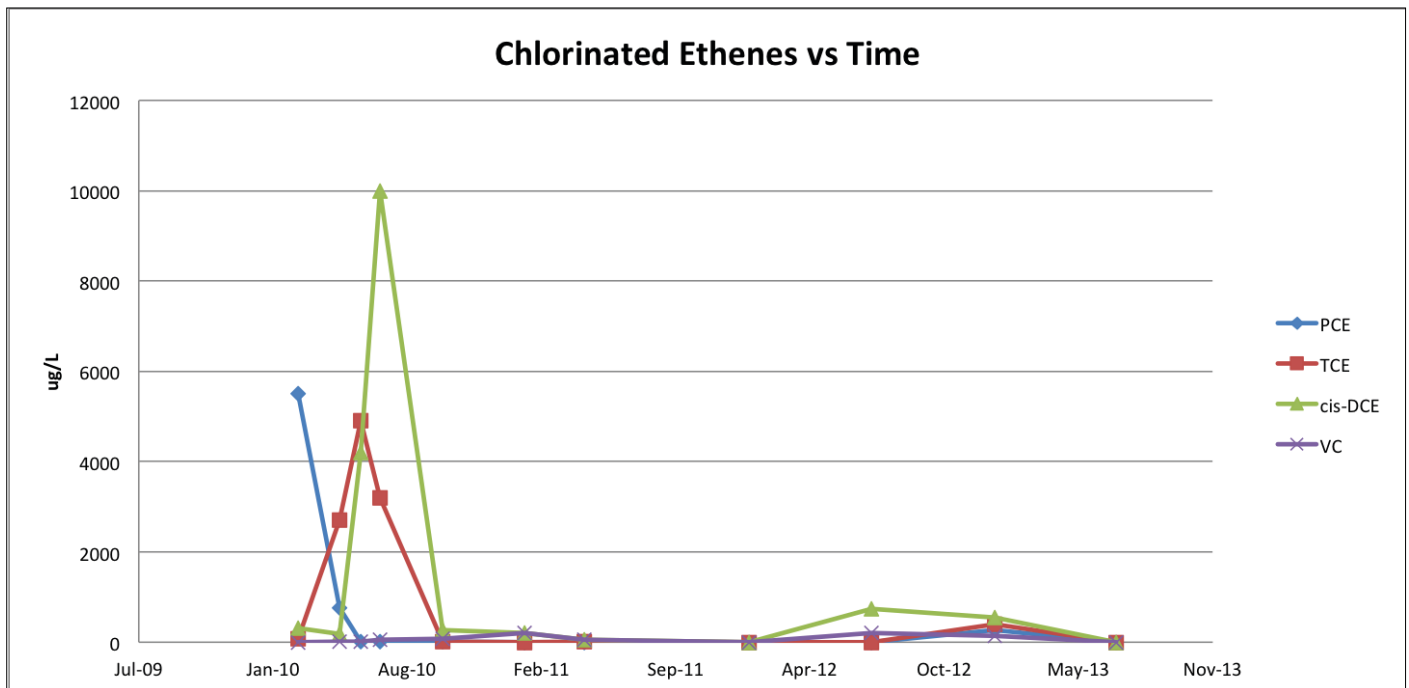

Figure 4
- Monitoring data (Figure 4) over 3.5 years clearly demonstrates the sequential creation and destruction of chlorinated solvent compounds, achieving a total contaminant mass reduction.